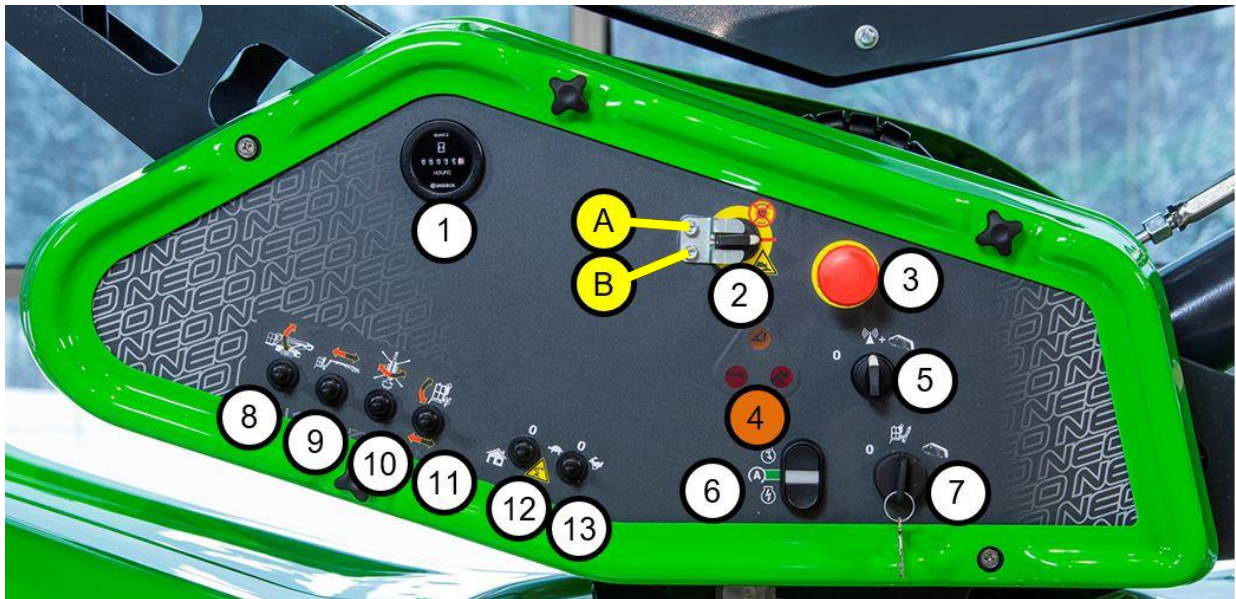

Figure 8 Lower controls panel
1. The ignition key (figure 8, switch 7) must be turned to lower control position
2. Turn on combustion engine or electric motor with the start switch (figure 8, switch 6)
3. To use the booms (figure 8, switches 8-11), you must also select movement speed with the speed selector switch (switch 13).
1. Switch on the machine by turning the ignition switch (figure 8) and select preferred control position (lower controls or platform controls)
6. Use choke **only** if the petrol engine doesn't start automatically (figure 7, switch 21 or lower controls figure 8, switch 8)